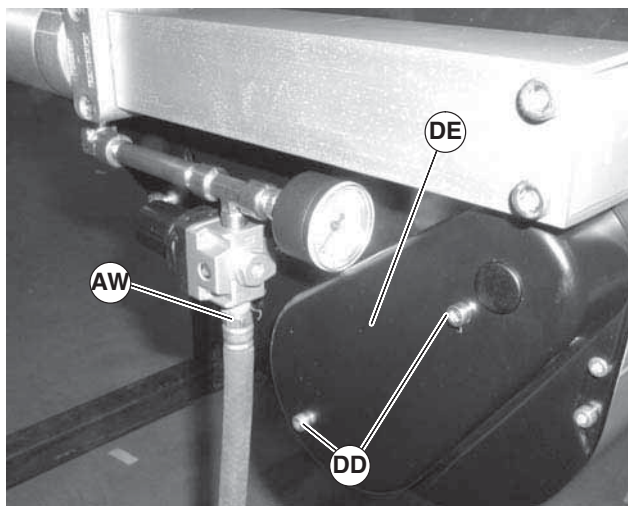

Figure 94
1. Remove air supply and remove hose (Figure 94, item AW) from center drive.
2. Remove screws (Figure 94, item DD) and guard (DE).